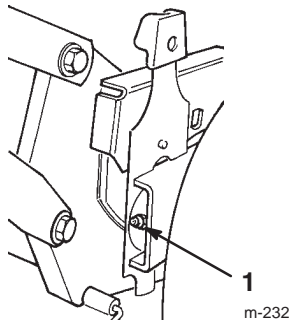

Figure 22
2. Wipe the grease fittings with a clean rag (Fig. 22).
3. Install a grease gun onto the fitting and gently apply 2 or 3 pumps of #2 multi-purpose lithium base grease (Fig. 22).